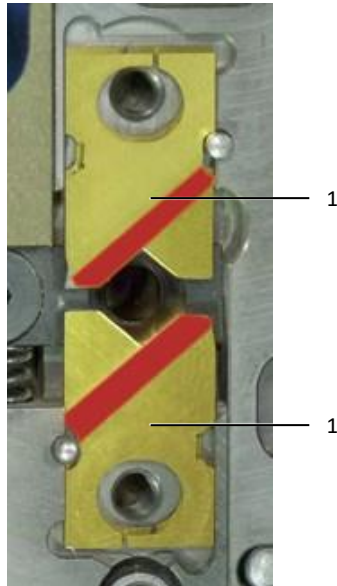

Fig. 18: Inserting blades
- Place each blade-pair together so that the angled edges (marked red in fig. 18) point outwards.